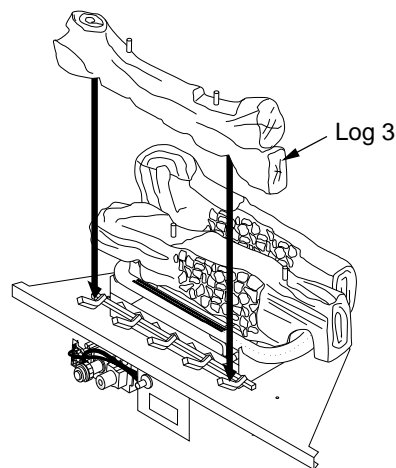

Figure 29 - Installing Log 3
3. Place front log (log 3) onto grate fingers at front of base grate (see Figure 29). Make sure log seats well into grate.